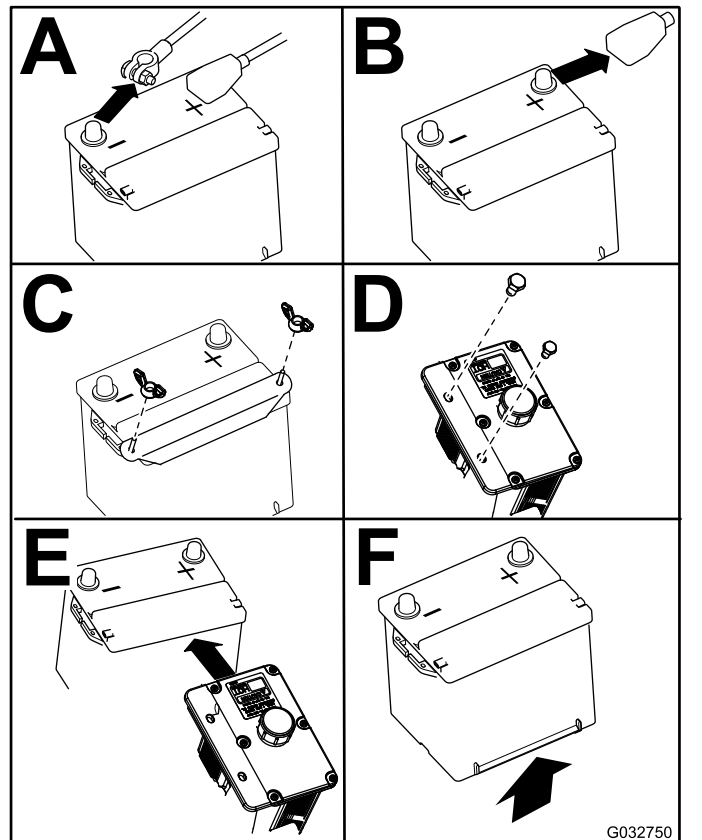

Figure 57
3. Remove the battery as shown in Figure 57.